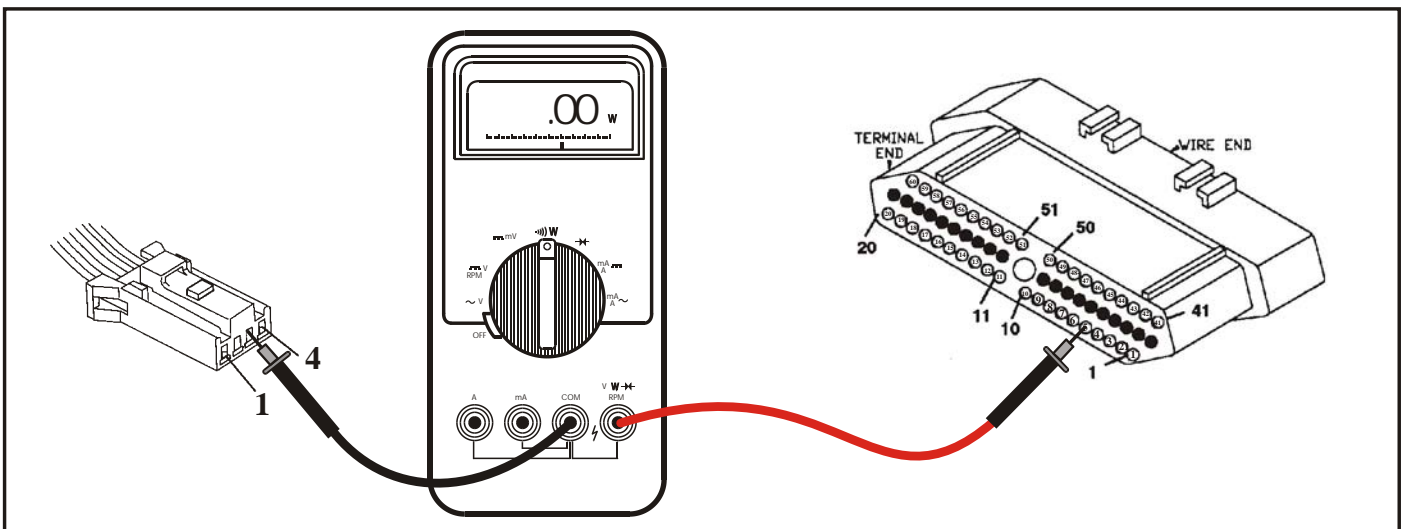

Figure 5
- (3) If continuity (5 ohms or less) is observed, unplug the TCM and perform a continuity check from terminal 3 in the Autostick connector to terminal 5 in the TCM (See Figure 5). If continuity is not seen, the wire is severed. Repair or replace the wire.